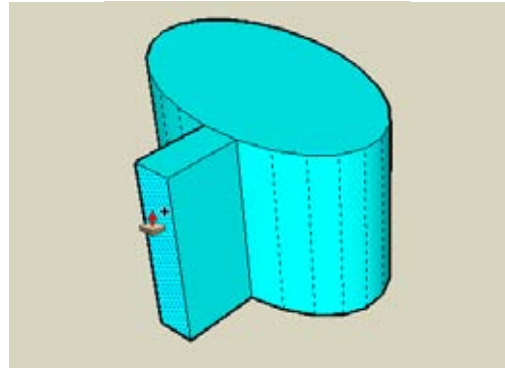

Figure 4-9
3. Use Push/Pull with the Ctrl/Option key to pull out one of the segments (Figure 4-9). One of the vertical faces created by this operation will be used to create one of the Follow Me faces.